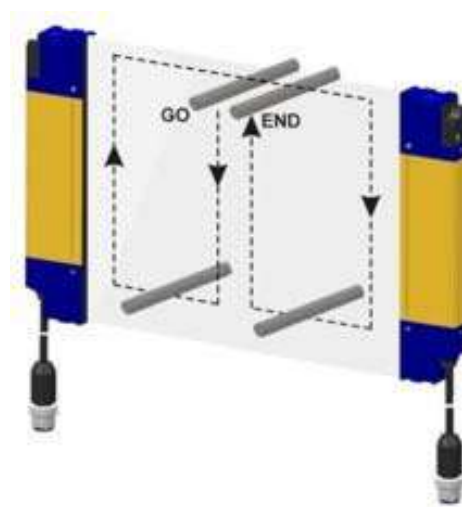

Figure 13 - First installation check with test piece
- The ESPE remains in Safe State (OSSD led lit RED) intercepting the beams along the detection zone using the specific test piece, following the scheme shown in Figure 13 (see "Accessories" on page 51).